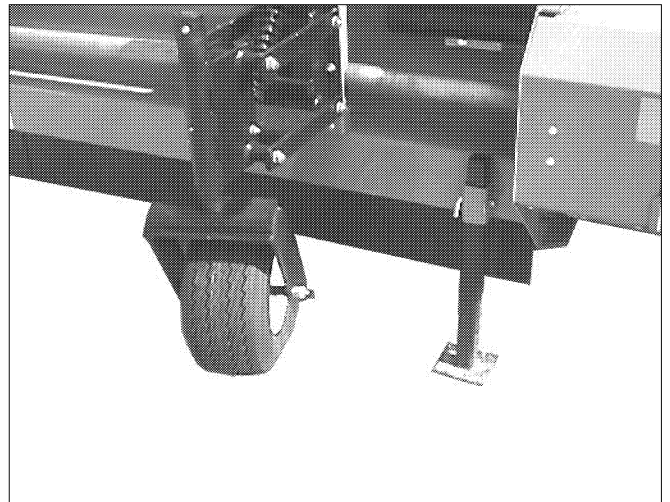

Figure 5 Stand
2. Unpin the front frame stands. Raise the stands and pin them in their stowed positions. See Figure 5.